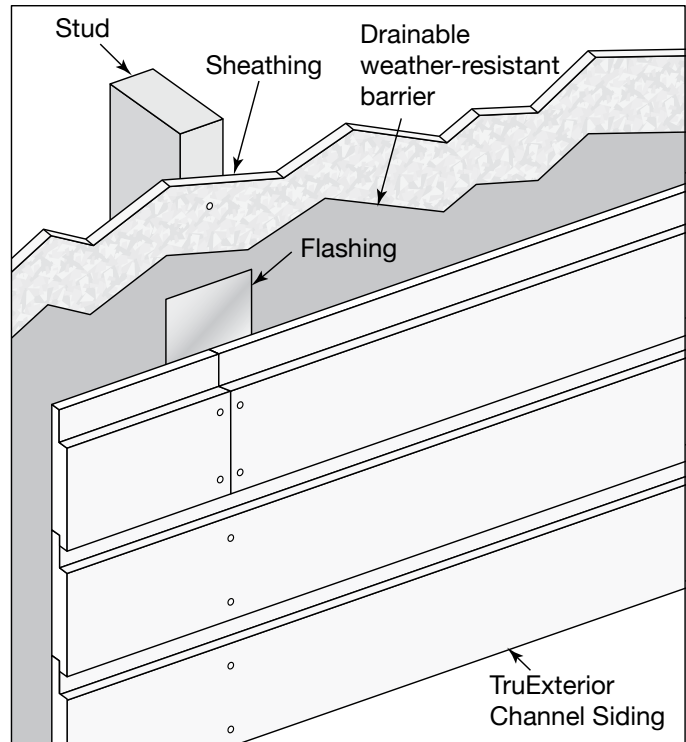

Fig. 4a
- For 4", 6" and 8" profiles use 2 fasteners per every framing member. Both fasteners should be through the face of the profile. Product should not be fastened through the tongue (Fig. 4a & 4b).